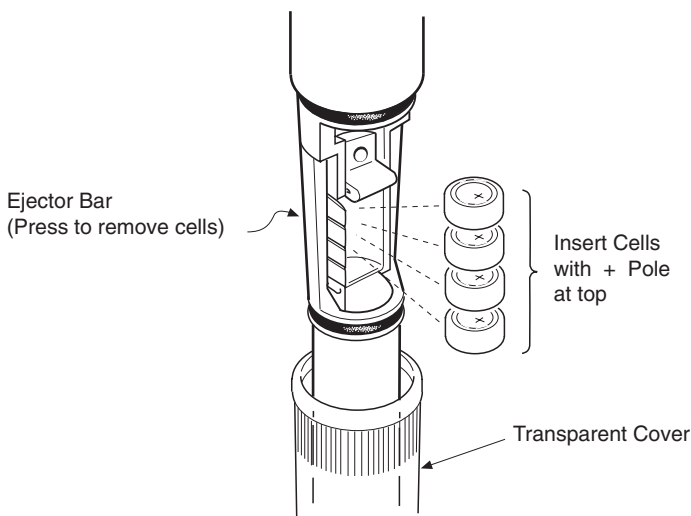

Fig. 2.3 Fitting battery cells in the probe
2.3.1 Fitting the battery cells (Fig. 2.3)